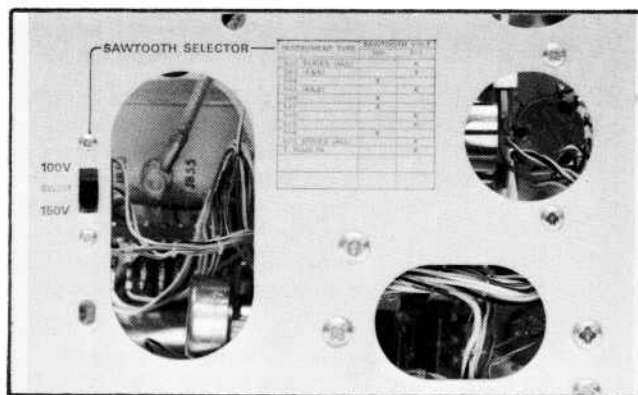

Fig. 2-4. Rear panel of the Type 1L40 showing sawtooth selector.
Set the Sweep Voltage selector at the rear panel (see Fig. 2-4) to the required position for the oscilloscope the analyzer is to be operated with. If the oscilloscope sawtooth voltage output is not given on the chart, refer to the oscilloscope instruction manual.
a. Set the Sweep Voltage selector at the rear panel (see Fig. 2-4) to the correct position (100 V or 150 V) for the oscilloscope being used. Some Tektronix Oscilloscopes and their sweep voltage output are listed on the back panel of the instrument. If your oscilloscope is not listed, check the specifications given in the oscilloscope instruction manual for the voltage swing of the sawtooth out signal.